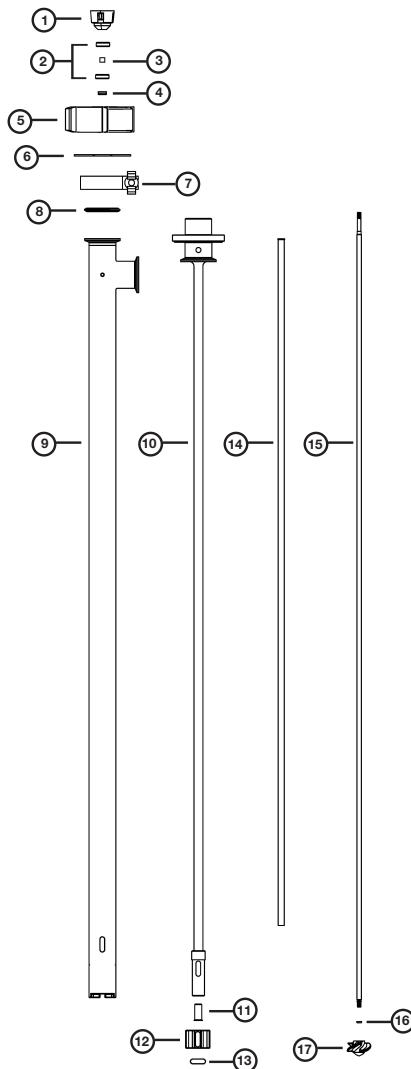

Figure 21
11. Remove guide sleeve from drive shaft (see Figure 21).